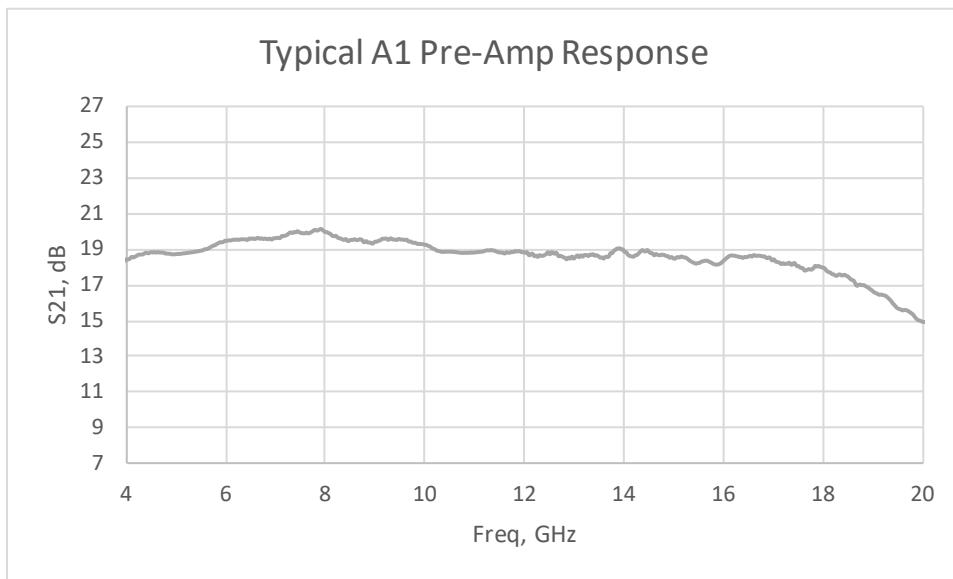

Figure 4-7. Typical A1A1 Pre-Amp Response
12. If the A1A2 Driver Amp is normal, check the A1A1 Pre-Amp. The gain of the A1A1 Pre-Amp should be approximately 1-2 dB with the gain control at maximum. The typical A1A1 Pre-Amp response is shown in Figure 4-7.